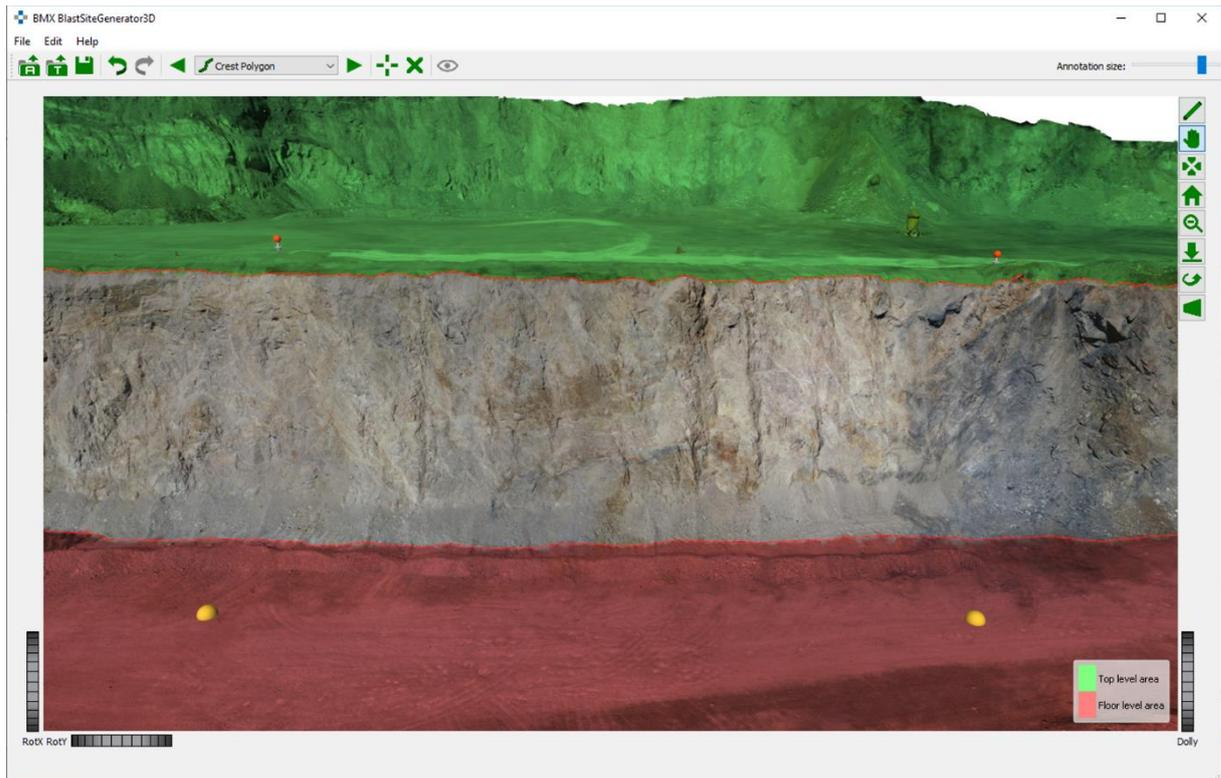

Figure 6: Preview of a generated Blast Site
8. Click on the “Preview”  icon in the toolbar and outlook of the generated *Blast Site* is displayed in the 3D viewer. The green colored area reveals the *Top Level Area*, while the red colored area the *Floor Level Area* (see Figure 6).